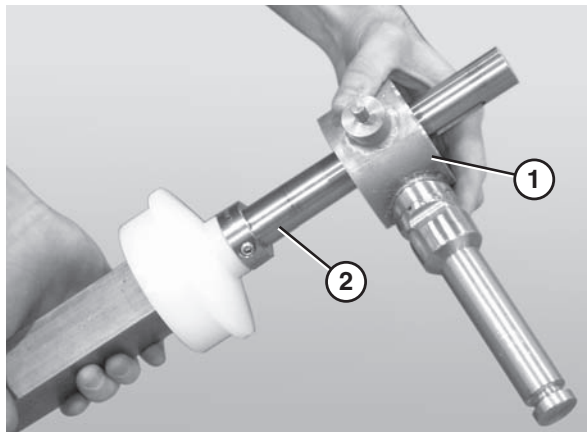

Figure 72
9. Slide the second bearing shaft assembly, or the motor mount bracket (**Figure 72, item 1**), onto the longer end of the drive spindle (**Figure 72, item 2**).